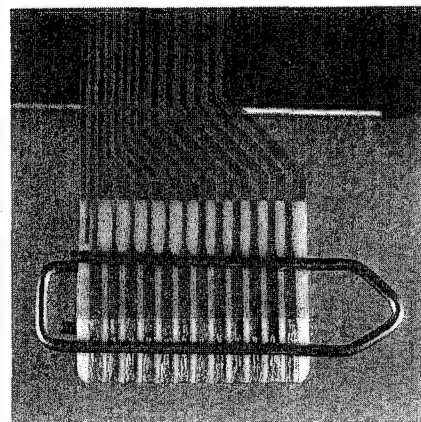

fig.1
2. Connect paperclip to CDM flexfoil to short-circuit flexfoil (fig.1)